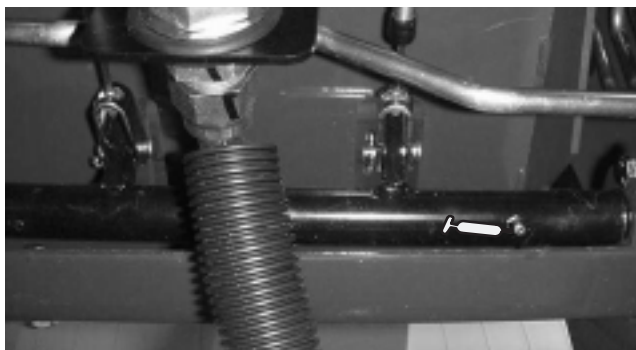

Figure 16
- Brake shaft pivot bearings (5) (Fig. 16)